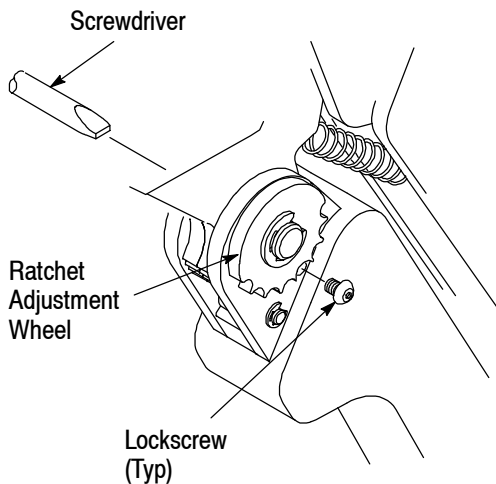

Figure 5
**6. RATCHET (Crimp Height) ADJUSTMENT (Figure 5)**